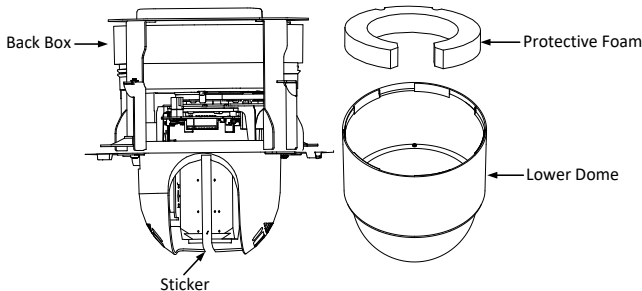

Figure 2-1 Remove the Protective Accessory
1. Rotate the lower dome counterclockwise to separate it from the back box as shown in Figure 2-1.
1. Rotate the lower dome counterclockwise to separate it from the back box. Refer to the Figure 2-1.